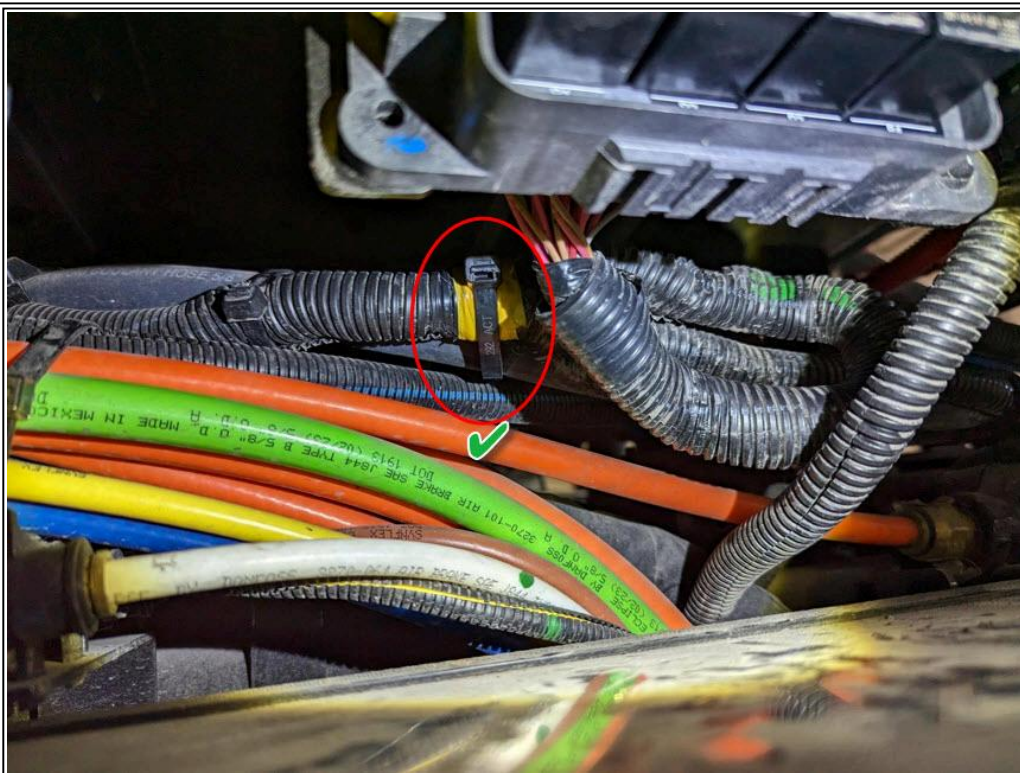

Figure 3: New Harness Securement Location
2. Install a new tie strap around the main trunk of the harness, while ensuring there is 8-10 inches of unsecured harness from the back of the PDM. (Figure 3)